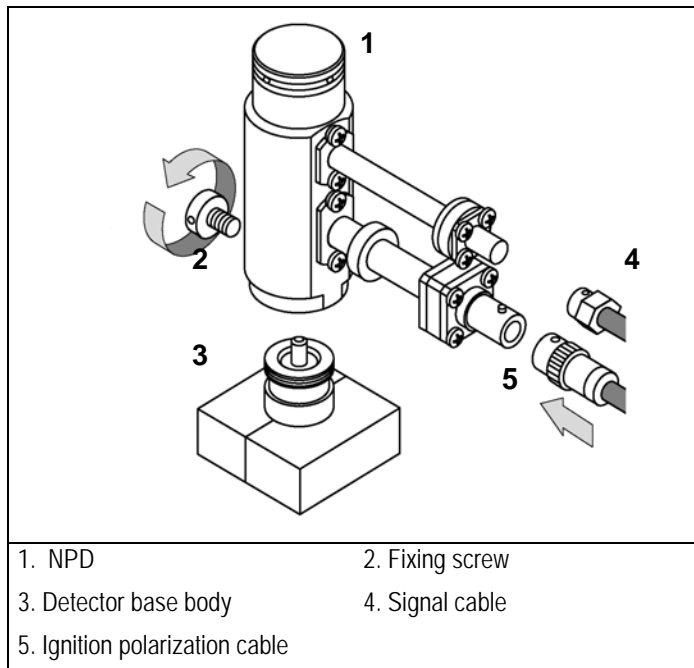

Figure 18-3. Installation of the NPD
2. Install the NPD on the detector base body and secure it by using the fixing screw on the front of the detector cell. Refer to Figure 18-3.
3. Carefully, connect the signal and ignition polarization cables coming from the detector control card, to the detector cell. Refer to Figure 18-3.